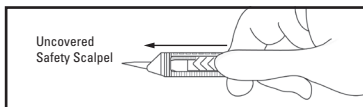

Figure 3
- To uncover the safety scalpel blade, place thumb on scalpel and push forward until the blade locks (Figure 3).